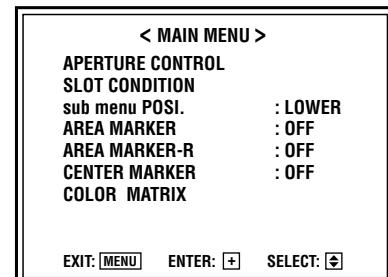

Fig. 2
5. Check the other menus and set their items as required. Press the **MENU** key to display the MAIN MENU (Fig. 2). Check the items in the MAIN MENU by comparing them with the data in the table on page 11. If any item is set differently, set it as required.